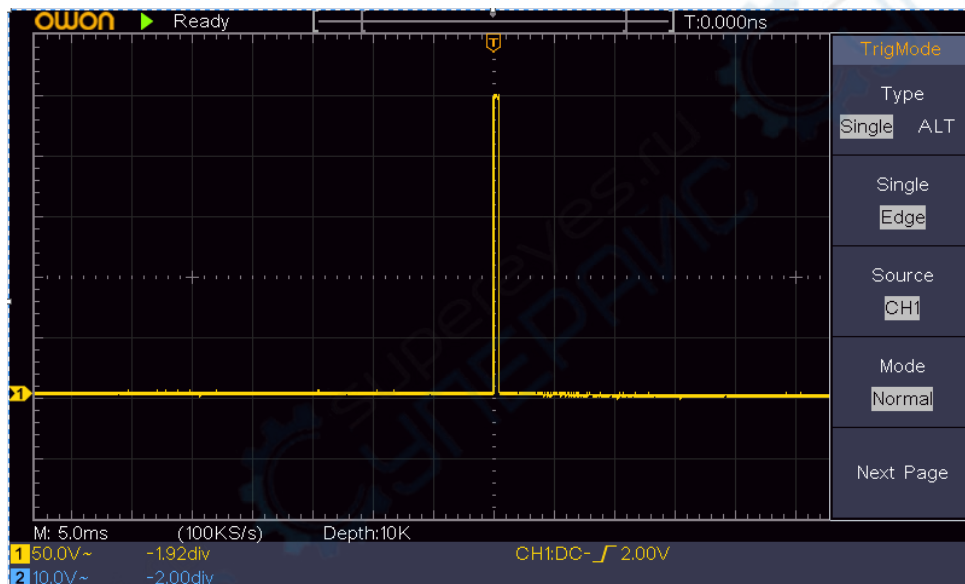

Figure 6-3 Capturing a Single Signal
- (2) Adjust the **Vertical Scale** and **Horizontal Scale** knobs to set up a proper vertical and horizontal ranges for the signal to be observed.
- (3) Push the **Acquire** button to display the right menu.
- (4) In the right menu, select **Acqu Mode** as **Peak Detect**.
- (5) Push the **Trigger Menu** button to display the right menu.
- (6) In the right menu, select **Type** as **Single**.
- (7) In the right menu, select **Single** as **Edge**.
- (8) In the right menu, select **Source** as **CH1**.
- (9) In the right menu, press **Next Page**, select **Coupling** as **DC**.
- (10) In the right menu, select **Slope** as  (rising).
- (11) Turn the **Trigger Level** knob and adjust the trigger level to the roughly 50% of the signal to be measured.
- (12) Check the Trigger State Indicator on the top of the screen, if it is not Ready, push down the **Run/Stop** button and start acquiring, wait for trigger to happen. If a signal reaches to the set trigger level, one sampling will be made and then displayed in the screen. By using this approach, a random pulse can be captured easily. For instance, if we want to find a burst burr of high amplitude, set the trigger level to a slightly higher value of the average signal level, push the **Run/Stop** button and wait a trigger. Once there is a burr occurring, the instrument will trigger automatically and record the waveform during the period around the trigger time. By turning the **Horizontal Position** knob in the horizontal control area in the panel, you can change the horizontal triggering position to obtain the negative delay, making an easy observation of the waveform before the burr occurs (see *Figure 6-3*).